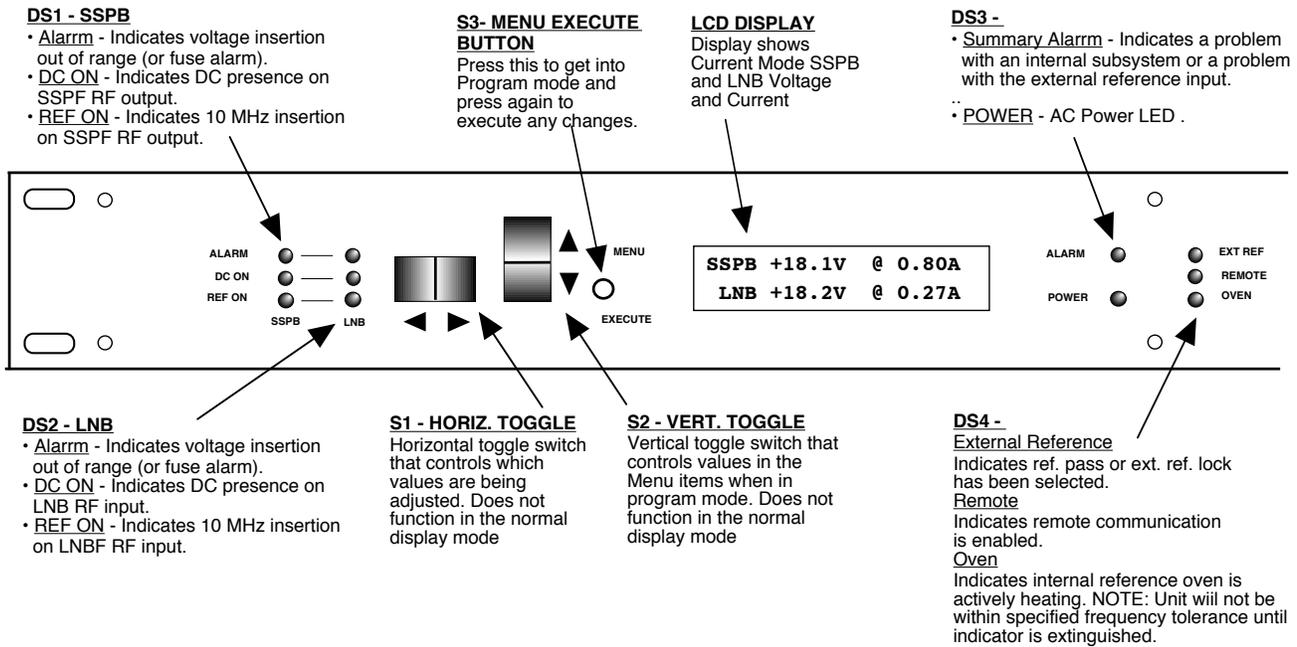
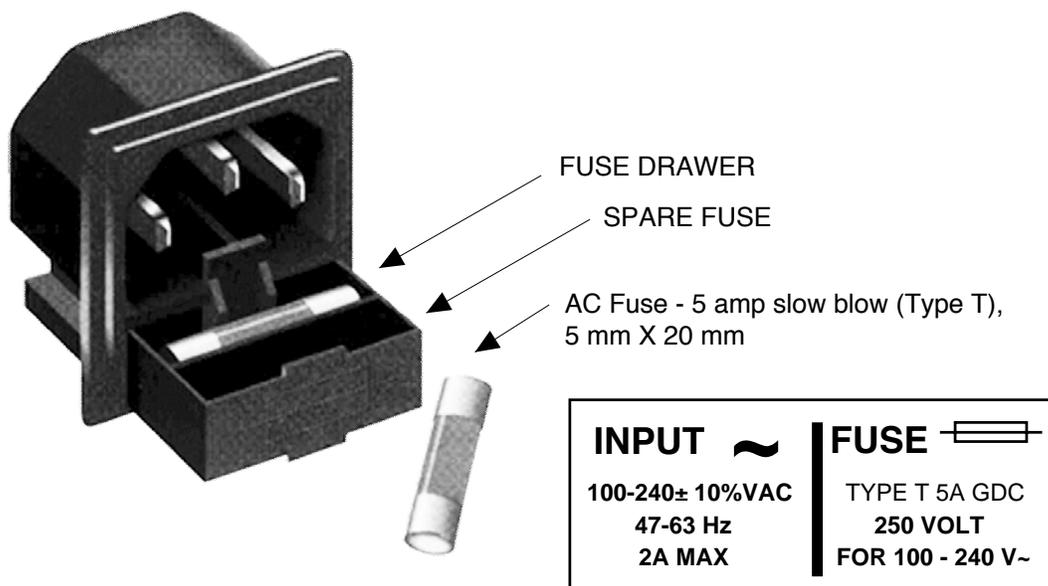

FIGURE 2.2 2099-1818 Front Panel Controls and Indicators
FIGURE 2.3 Fuse Location and Spare Fuse
3. Be sure DS3 LED (green, POWER) is on (Figure 2.2).
6. (Option -E6 only) Choose one of the five (5) modes, (Internal, Ext Pass, Ext Pass Auto, Ext Lock, or Ext Lock Auto) in which to operate the unit.
8. AC FUSE - The fuse is a 5 mm X 20 mm, 2 amp slow blow (Type T) and is inserted in the far slot in the drawer below the AC input as shown in Figure 2.3. There is a spare fuse in the near slot. If a fuse continues to open, the power supply is most likely defective.
9. AC FUSE - The fuse is a 5 mm x 20 mm, 5 amp slow blow (Type T) and is inserted in the far slot in the drawer below the AC input as shown in Figure 2.3. There is a spare fuse in the near slot. If a fuse continues to open, the power supply is most likely defective.
Alarm indications appear on the LED (see Figure 2.2).